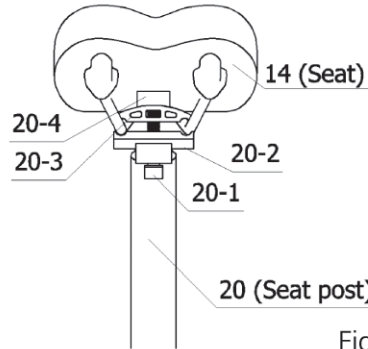

Figure 24-1.
c. Rotate the cover plates 20-3 and 20-4 so that the saddle guide rail is placed in the slots 20-2 and 20-3, and then tighten the screw 20-1 with a 6 mm Allen wrench. It is not necessary to tighten it completely, but the screw should not fall out, as shown in Figure 24-1 and Figure 24-2.